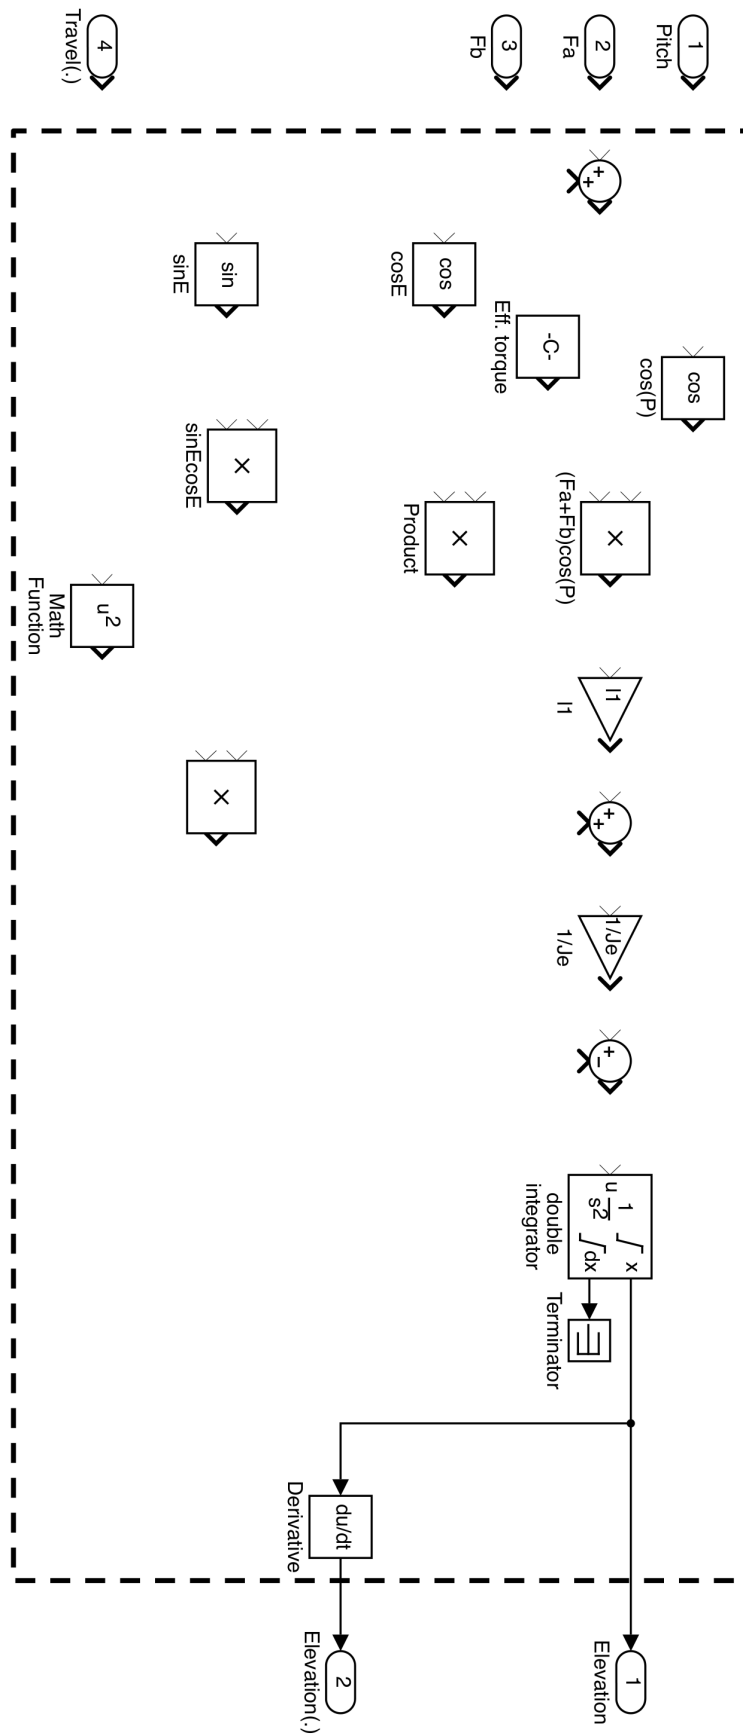

Figure 2: Partially completed elevation dynamics block diagram.
- An incomplete SIMULINK block diagram of (1) is shown in Figure 2. Sketch on the additional block(s), together with the necessary connections between all blocks, in order to complete the block diagram representation of (1). Scan, or photo the completed diagram and append to the back of your lab report. (5 marks)